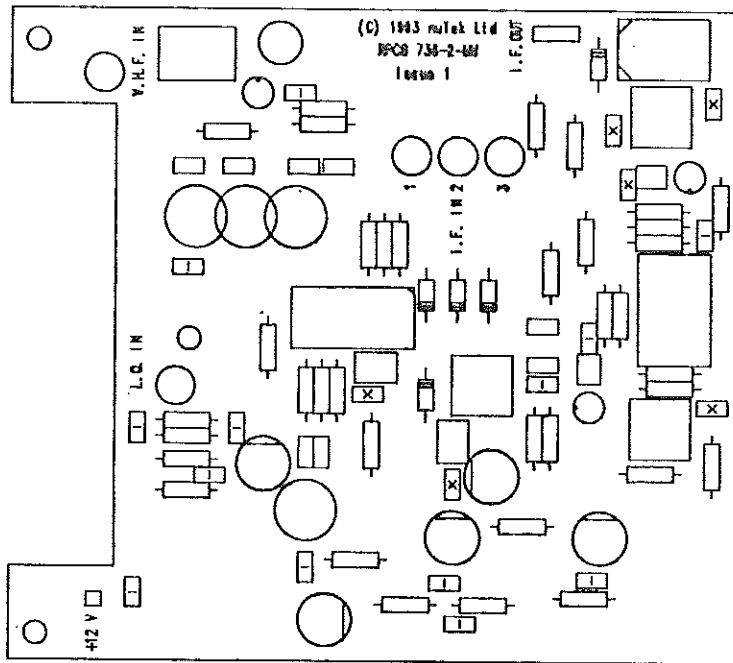

Fig 8 2m muTek board
- 30) Taking care to avoid the mains protection board, set up the FT736 and connect the 2m output to a power meter and dummy load. Select a frequency of about 144.800 MHz and FM mode. If the S meter reads above S1 then it should be set back to this reading by adjusting the I.F. gain pot (Fig 8) on the 2m muTek board.